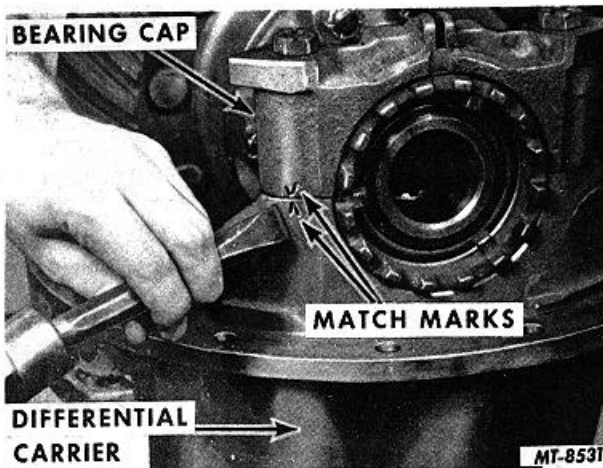

Fig. 10 Marking Bearing Cap for Identity
2. Match mark one differential bearing cap and leg of carrier with punch or chisel, Fig. 10, to identify each for correct reassembly.